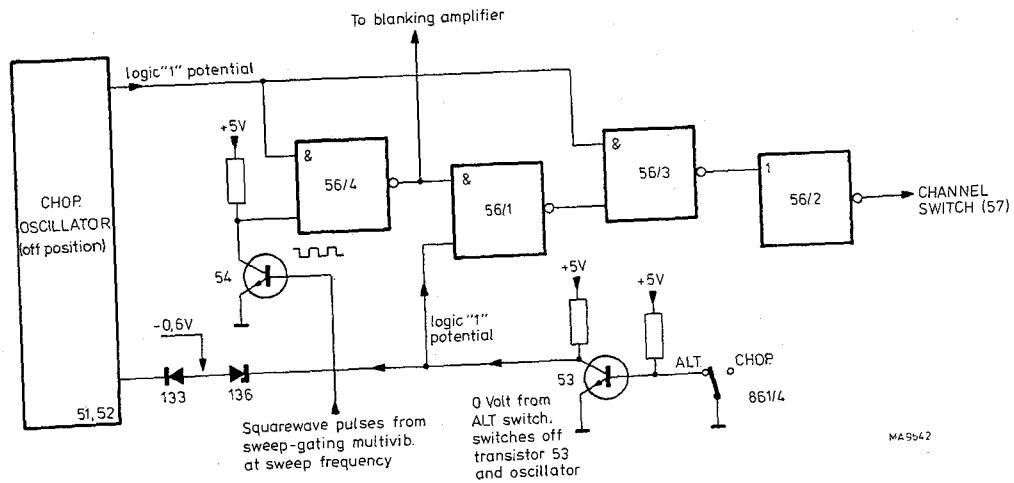

Fig. 3.5. Vertical channel switching – ALT mode
- During the time that transistor 53 is not conducting the CHOP oscillator is switched off (see Fig. 3.5).